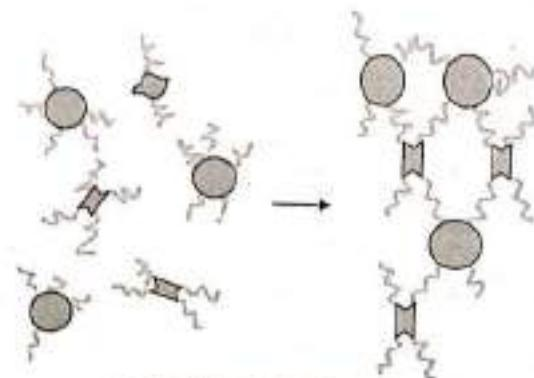

Fig. 1.27.1. Self-assembly.
- Self-assembly can be defined as the reversible and spontaneous organization of molecules into order structures. It takes place by non-covalent interactions and there is no external work required as shown in Fig. 1.27.1.